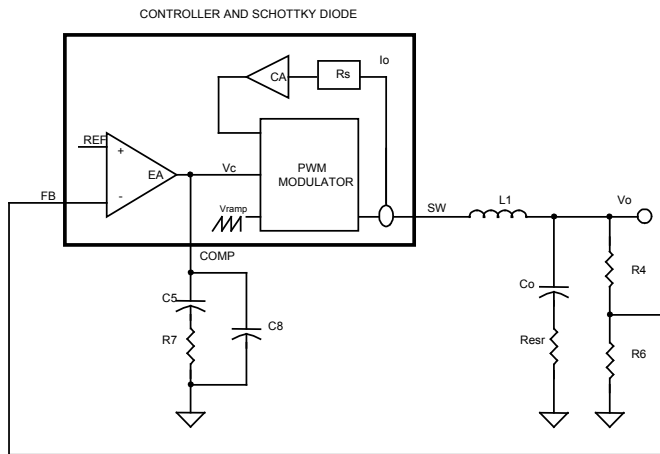

Figure 7. Block diagram of control loops
The goal of compensation is to shape the frequency response of the converter so as to achieve high DC accuracy and fast transient response while maintaining loop stability (see Figure 7).
The block diagram in Figure 7 shows the control loops of a buck converter with the SC4525C. The inner loop (current loop) consists of a current sensing resistor ($R_s=3.53\text{m}\Omega$) and a current amplifier (CA) with gain ($G_{CA}=18.5$). The outer loop (voltage loop) consists of an error amplifier (EA), a PWM modulator, and a LC filter.
For a converter with switching frequency F_{SW} , output inductance L_1 , output capacitance C_o and loading R , the control (V_c) to output (V_o) transfer function in Figure 7 is given by: